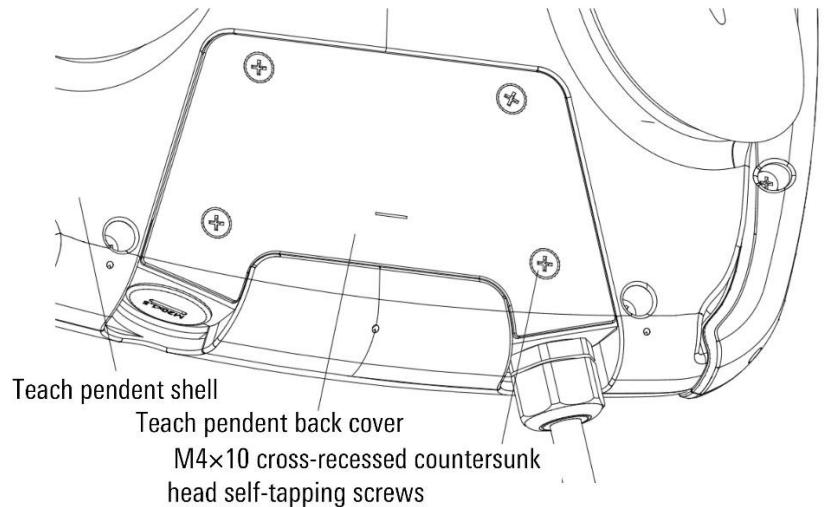

Figure 10-6 Diagram of replacing the external wiring harness of the teach pendant 1
Step1. Use a phillips screwdriver to unscrew the four M4×10 cross-recessed countersunk head self-tapping screws on the back cover of the teach pendant, and remove the back cover. Refer to Figure 10-6.